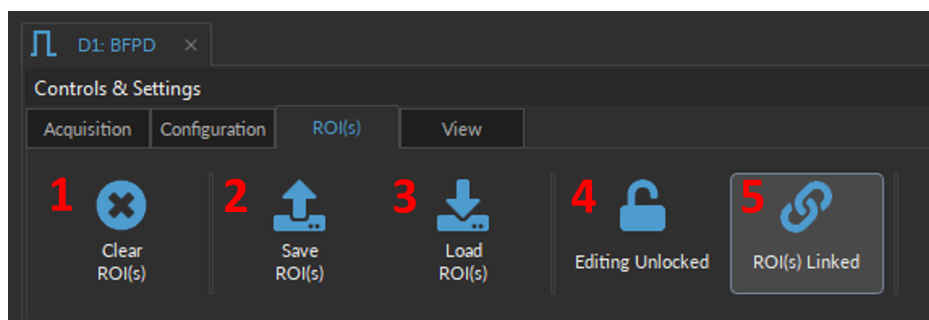

Figure 13.10: ROI(s) Tab
The **ROI(s) Tab** (Fig. 13.10) contains parameters to save, load, clear, or edit bundle fiber photometry ROI(s).
1. The **Clear ROI(s)** button (Fig. 13.10, 1) deletes all drawn regions of interest (ROI) within the **Camera View**. Note that unless the ROI(s) were previously saved, these ROI(s) cannot be recuperated.
2. The **Save ROI(s)** button (Fig. 13.10, 2) saves the region of interests drawn in the **Camera View** in a .doric file, so that the identical ROI can be re-imported into the module at a later time. At least one ROI must be drawn for this feature to work.
3. The **Load ROI(s)** button (Fig. 13.10, 3) imports a previously saved .doric file. Note that this ROI(s) configuration can be edited, but must be re-saved in order for changes to be conserved.
4. The **Editing Unlocked** button (Fig. 13.10, 4) when enabled prevents new ROI(s) from being drawn, but does not prevent moving or reshaping a selected ROI (see section 13.5.2).
5. The **ROI(s) Linked** button (Fig. 13.10, 5) automatically redraws identical ROI(s) in the other CAM# excitation tabs (Fig. 13.41, 1) within the **Camera View**. **Unlinking** previously linked ROI(s) deletes the ROI(s) from the **Camera View**. Note that it is preferred to uncheck **ROI(s) Linked** between cameras in order to move and resize ROI on each camera window independently to properly select the optical fibers.